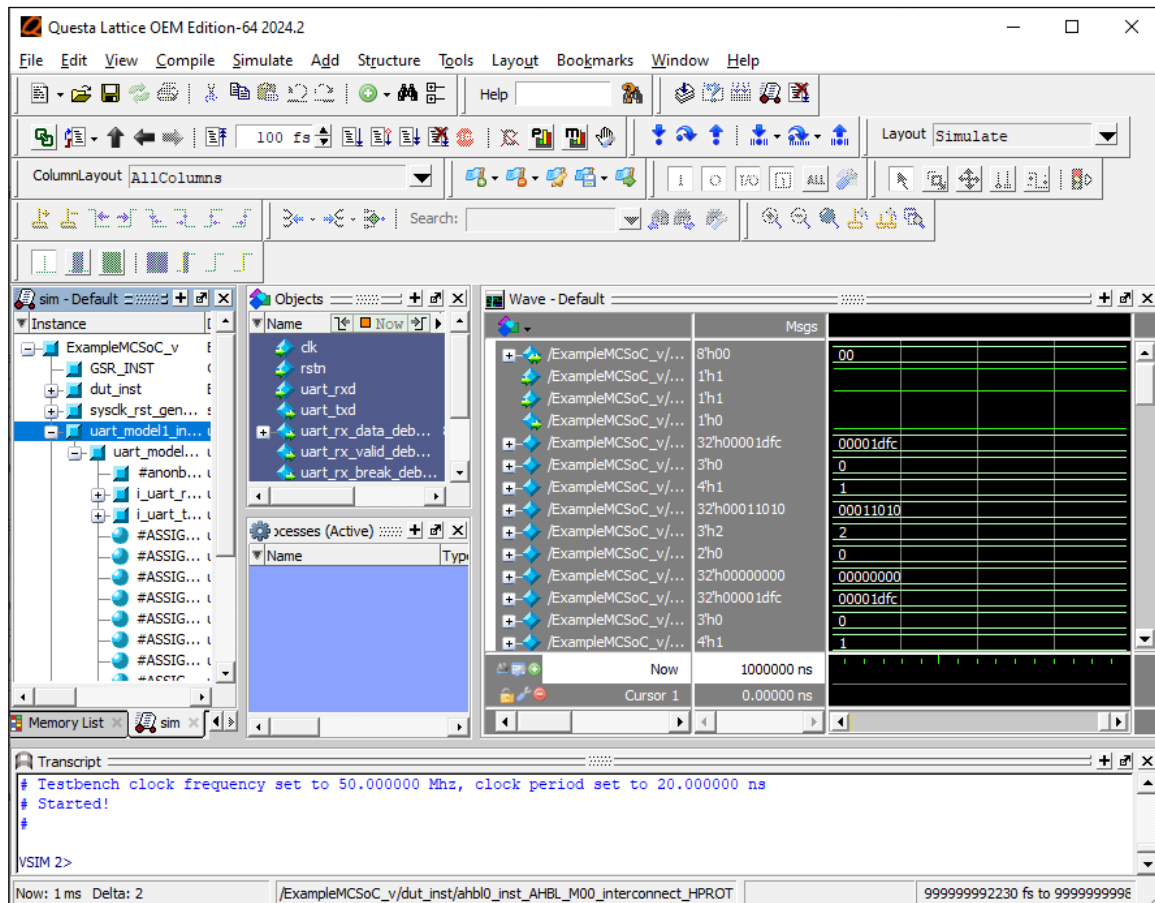

Figure 3.37. Questa Simulation GUI
4. QuestaSim is launched running simulation for the SoC verification project. The corresponding waveform of the SoC verification project for the Hello World project is shown (Figure 3.37). Check the waveform.